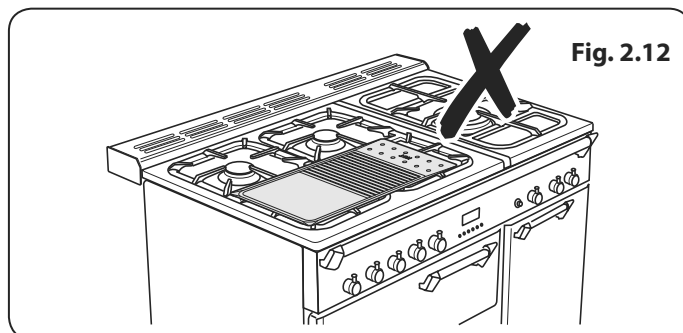

Fig. 2.12
**⚠ DO NOT put it crossways – it will not fit properly and will be unstable (Fig. 2.12).**